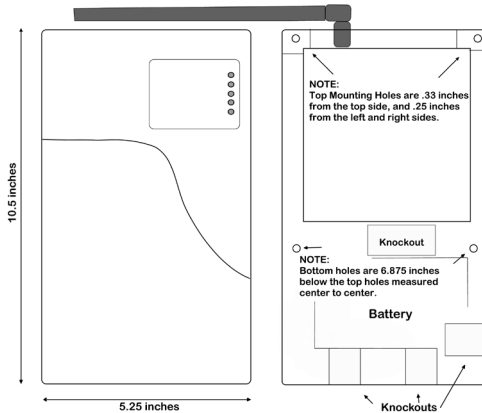

FIGURE 2:
Position the bottom of the CDMA50 enclosure where it will be installed. Use four (4) #6 screws and mount the unit using the four holes in the enclosure's plastic bottom. The CDMA50 unit's dimensions are shown in Figure 2.
Position the bottom of the CDMA50 enclosure where it will be installed. Use four (4) #6 screws and mount the unit using the four holes in the enclosure's plastic bottom. The 4550 unit's dimensions are shown in Figure 2.